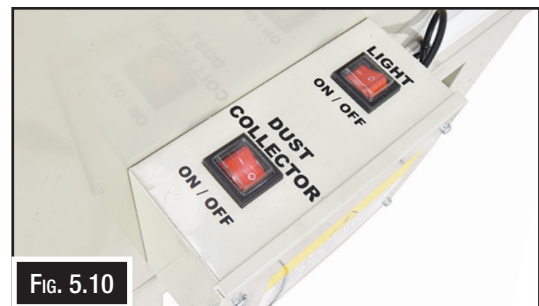

FIG. 5.10
8. Push the power switch ON, to start the dust collector and turn ON the work light. (Fig. 5.10)